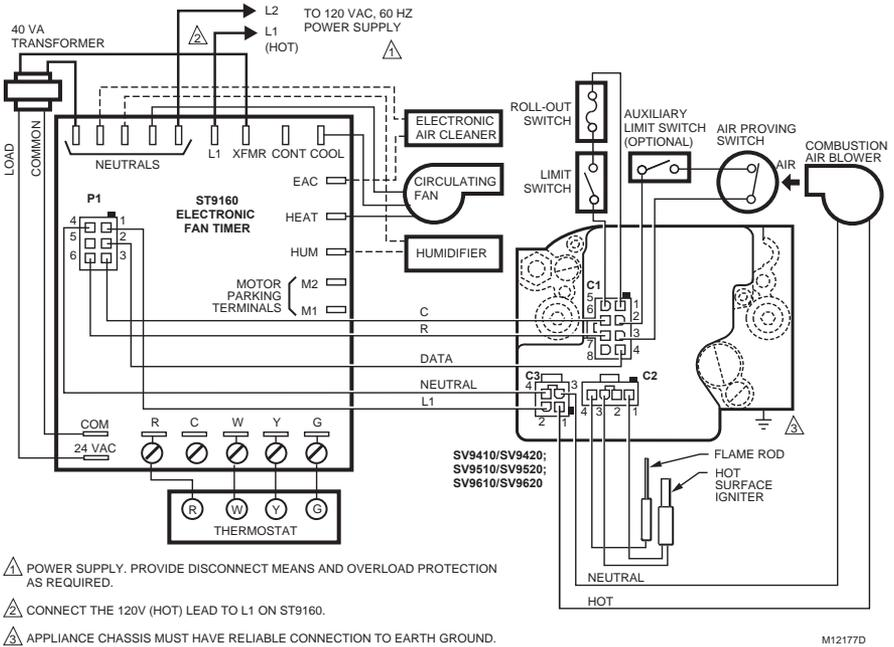

Fig. 7. SV9410/SV9420; SV9510/SV9520; SV9610/SV9620 typical wiring connections in fan-assisted warm air furnace with ST9160 Fan Board.
4. Connect control circuit to the ignition system control using the keyed connector. See Fig. 7 through 10.